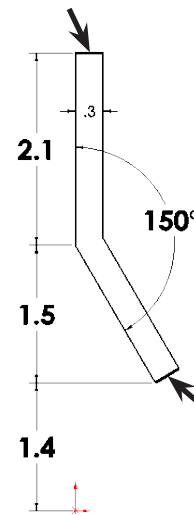

Fig. 7
Step 1. Click **Line**  (L) on the Sketch toolbar.
Step 2. Draw lines to connect the ends of the offset lines, **Fig. 7**.